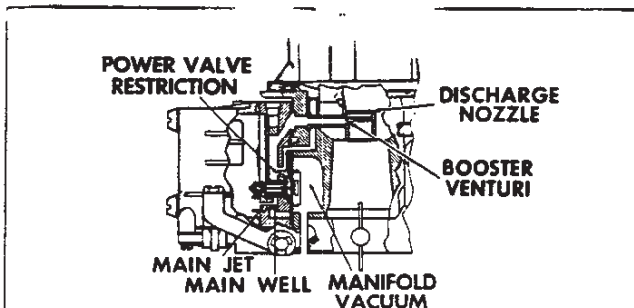

Fig. 6—Power Enrichment System
5. Power Enrichment System (fig. 6) consists of a vacuum operated valve (threaded into the meter-